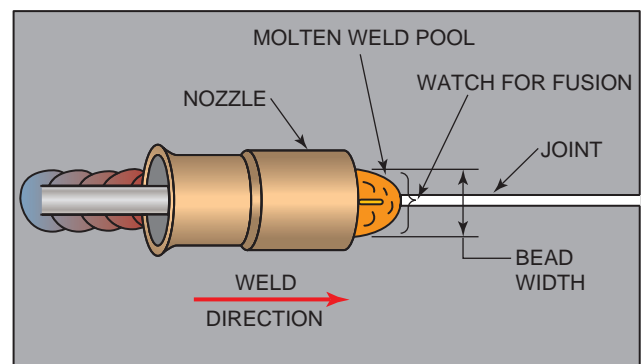

FIGURE 13-15 With forehand welding, the weld joint is visible in front of the molten weld pool.
- *Joint visibility*—you can easily see the joint where the bead will be deposited, Figure 13-15.